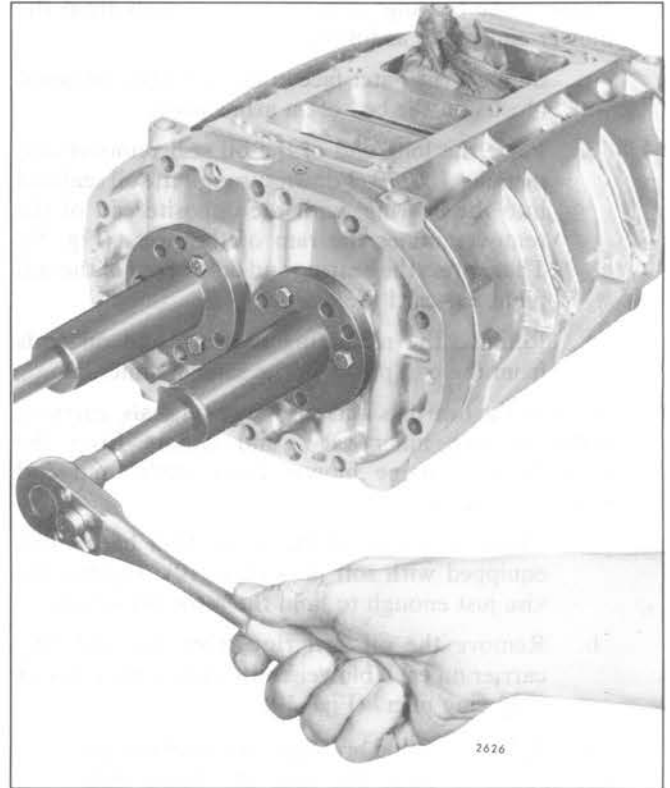

Fig. 8 – Removing Blower End Plate and Bearings from Housing and Rotors with Tool J 6270-31
- d. Turn the two puller screws uniformly clockwise and withdraw the end plate and bearings from the blower housing and rotors (Fig. 8).